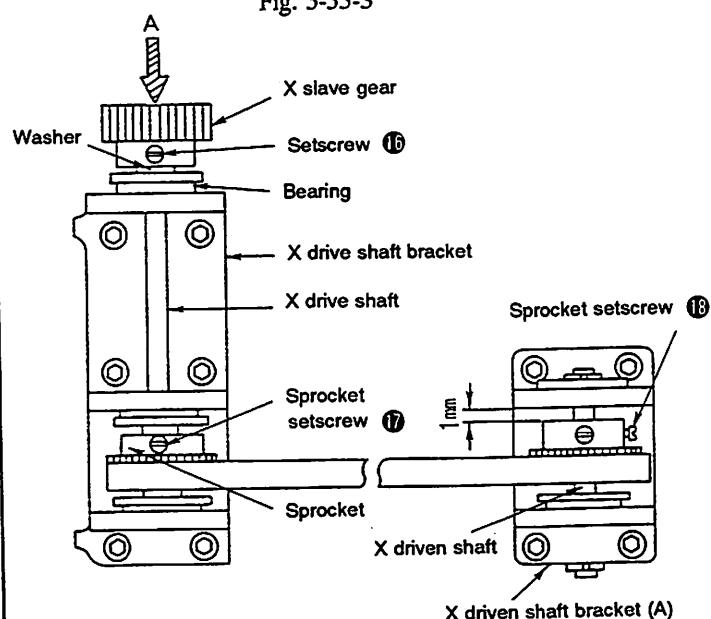
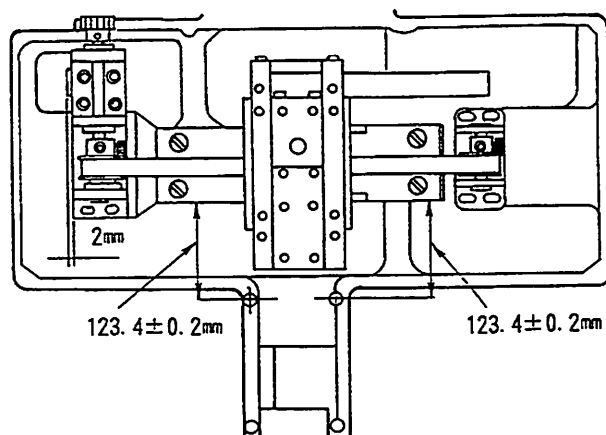

Fig. 5-55-4
Fig. 5-55-5
- If you have removed the X slave gear, lightly press it in direction A, and tighten setscrew 16 in the X slave gear after applying LOCKTITE No. 242 onto the setscrew. (Fig. 5-55-4)
- If you have removed the sprocket from the X driven shaft bracket (A), apply LOCKTITE No. 242 to setscrew 18 and fix the sprocket to the bracket while adjusting the clearance provided between the sprocket and the end face of the bracket to 1 mm.
- Position and fix the X-Y table according to Fig. 5-55-5. (Standard throat plate setscrew hole dia.: Setscrew hole dia. 11/64 pitch 40) After the X guide shaft has been installed, move the guide plate laterally and longitudinally to make sure that the guide plate can be moved smoothly.
- To adjust the belt tension, refer to the "STANDARD ADJUSTMENTS (31)."